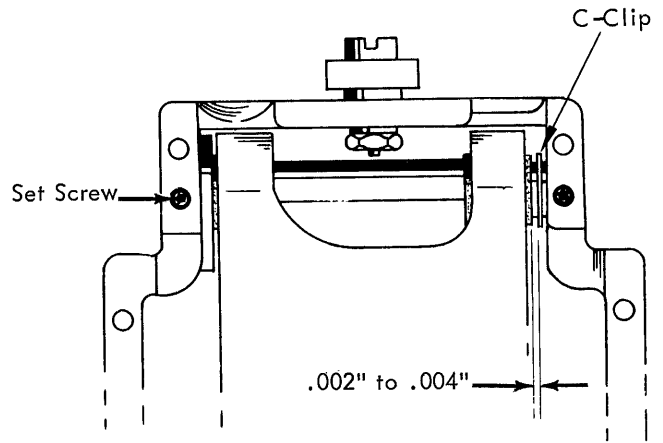

FIGURE 98. Rocker Shaft Adjustment
7. Rocker Shaft - Adjust the rocker shaft left or right to obtain .002" to .004" side play in the rocker (Fig. 98).